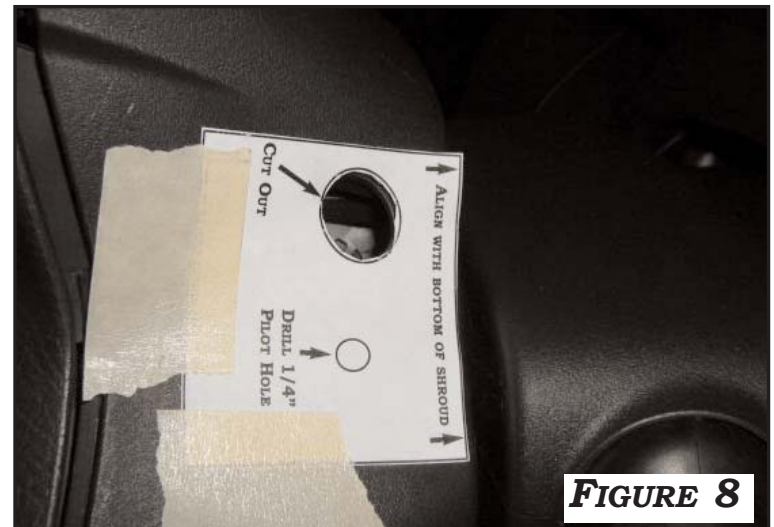

FIGURE 8
1. FOR DIO INSTALLS: USE THE **SWITCH HOLE CUTTING TEMPLATE** ON PAGE 11, PLACE THE TEMPLATE ON THE RIGHT SIDE OF THE STEERING SHROUD AS SHOWN AND DRILL TWO A **(1/4")** PILOT HOLE. **FIGURE 8.** CONTINUE TO STEP 4.